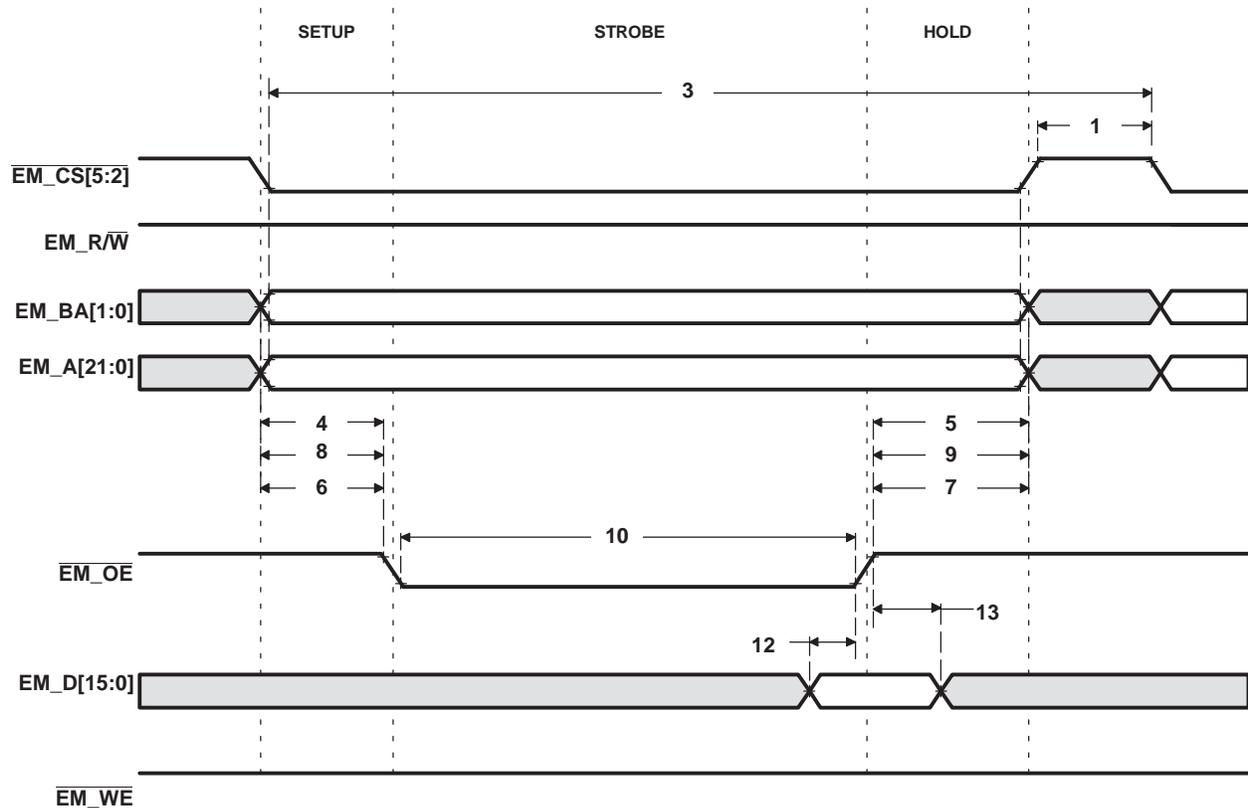
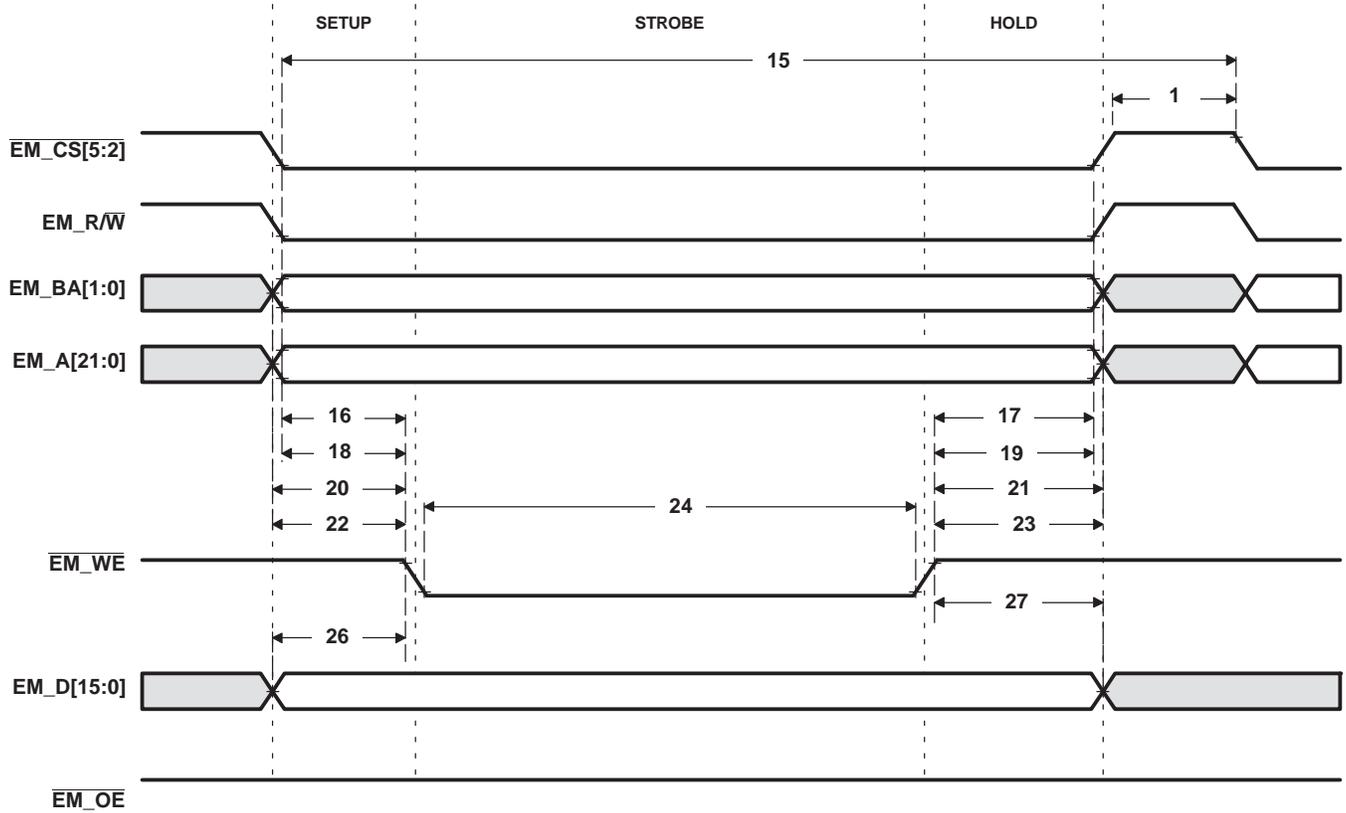

Figure 6-21. Asynchronous Memory Read Timing for EMIFA
Figure 6-22. Asynchronous Memory Write Timing for EMIF
(see Figure 6-21 and Figure 6-22)
Table 6-35. Switching Characteristics Over Recommended Operating Conditions for Asynchronous Memory Cycles for EMIFA Module^{(1) (2)} (see Figure 6-21 and Figure 6-22)
Table 6-35. Switching Characteristics Over Recommended Operating Conditions for Asynchronous Memory Cycles for EMIFA Module (see Figure 6-21 and Figure 6-22) (continued)